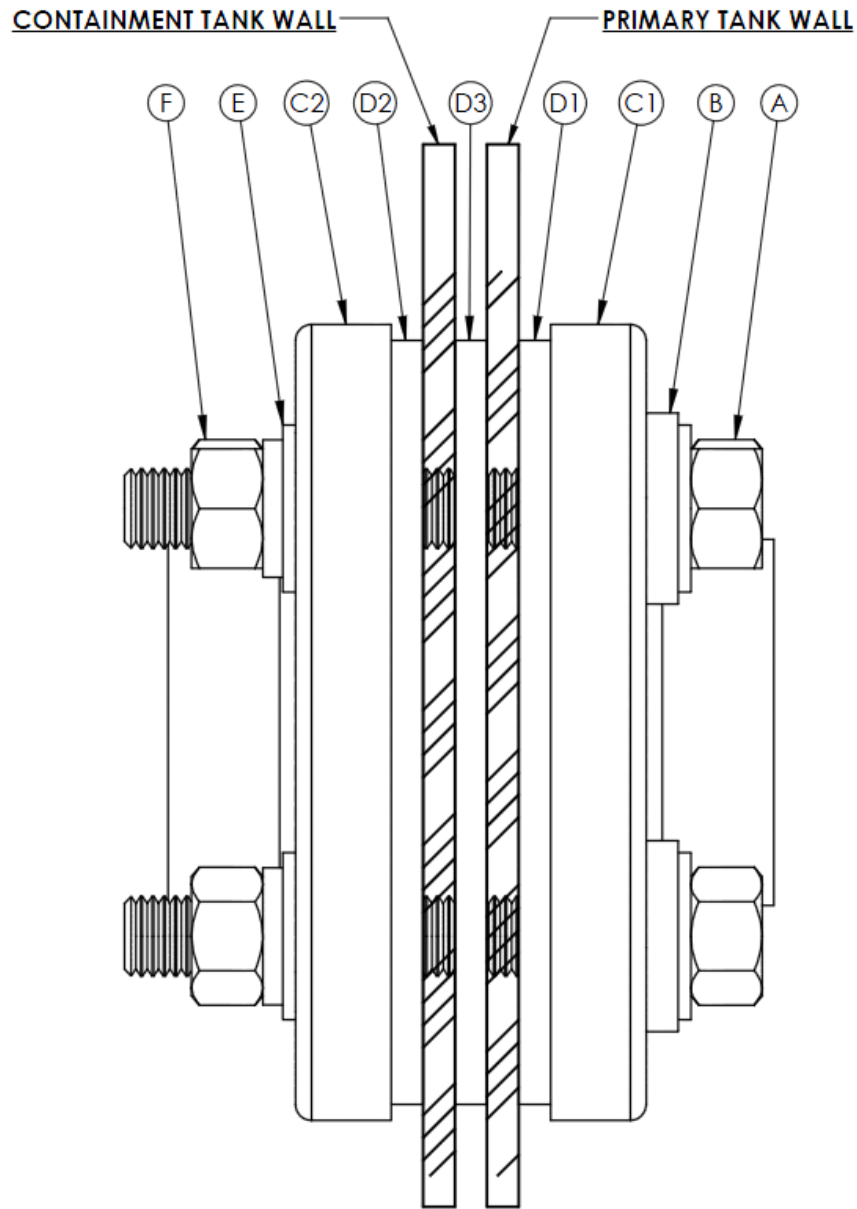

Figure 6.9
6.9.1 Dual containment tanks can have a sidewall fitting located at the 0°, 90°, 180° or 270° locations with a gasket installed in the interstitial space between the primary and containment tank. This option is normally factory installed for use with DCT tank assemblies. This option can be field installed. Consult factory for more details. The bolted fittings used with this option follow the same sealing/tightening criteria as detailed in sections 6.3 and 6.4. An example of this option is shown in Figure 6.9.
6.9.2 The bolted flange fitting shall be constructed with 2 ea. 150 lb. flanges (C1 and C2), 3 ea. 150 lb. flange gaskets (D1, D2, and D3), the correct number of full threaded bolts (A), bolt gaskets (B), flat washers (E), and hex nuts (F) for the flange specified. NOTE: If the sum of the containment and primary tank wall thicknesses and the interstitial gasket (D3) thickness is greater than or equal to 0.75", fittings with stainless steel bolts will require longer bolts for installation. Consult with the factory for the correct part number when ordering long-bolted flange fittings. Refer to Figure 6.9 for part identification.